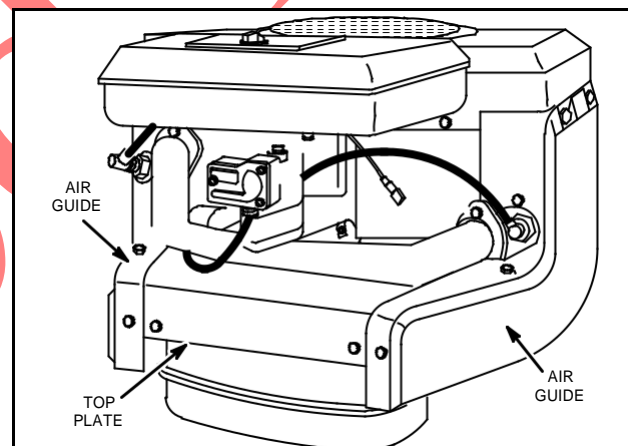

Fig. 17 – Install Top Plate and Cylinder Air Guide
3. Tighten twelve screws securely, Fig. 17.